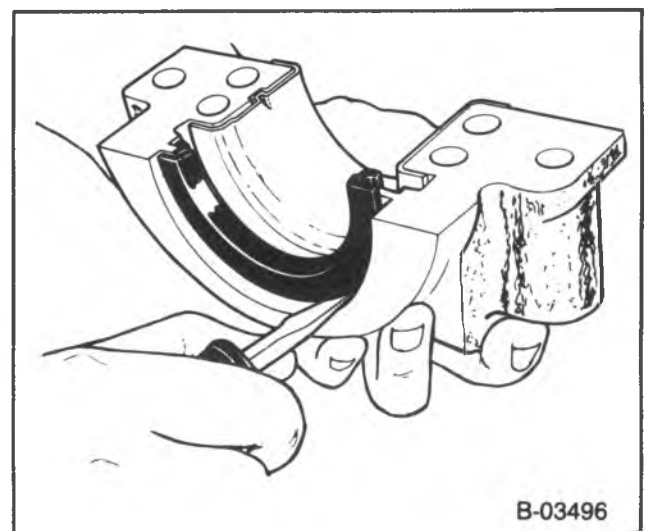

Figure 18 — Removing the Lower Oil Seal Half
Remove or Disconnect (Figures 18 and 19)
3. Lower seal half (figure 18).